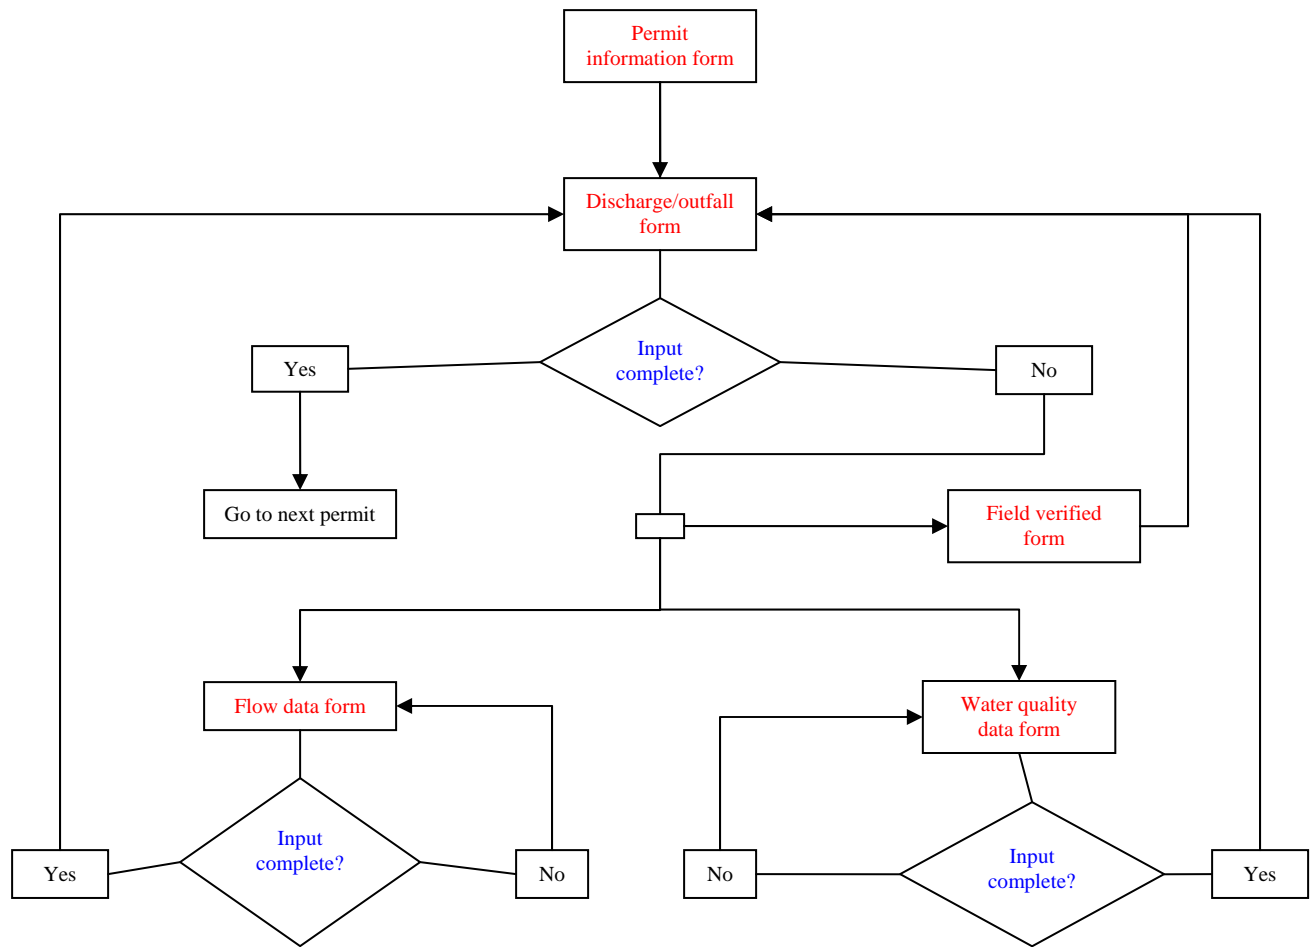

Figure 1. Process flow chart for data entry into Act 220 discharge monitoring report database
A process flow chart showing the structure of and the relationships between the database forms is shown in Figure 1. Notice that the database has the capability of storing water quality data; however, these data are not required for the flow data collection task and thus will be for the use of the party entering the data only. Water quality data will not be transferred to DEP unless they request such transfer. The database will also store data acquired from Global Positioning Systems (GPS) regarding the location of discharges. This will serve three functions:
- After you have entered all flow data from the DMR paper form for the selected discharge for the selected month, you will need to enter the flow data for the same discharge for all other months (up to 60) (Figure 1). At the bottom of the form is a record number bar with arrows that will read “1 of ?”, with ? = the number of months of flow data (or number of flow data records you have already entered). To leave the current month you have input flow data for and continue to the next month, click on the plain right arrow tab (do not click on the right arrow with the line to the right of it or the right arrow with the asterisk to the right of it). This will open a new, empty flow data form which you will use to input flow data for the same discharge but for a different month. You can also Tab through the fields and once you Tab out of the comment field, an empty flow form will open to allow you to enter the next record. You will fill out this form in the same manner as the previous flow form, making sure you change the date and the flow values as they are recorded on the paper DMR files. You will continue this process for each monthly DMR paper report until you have entered all months of flow data for that outfall.
- After you have finished entering all flow data for the discharge/outfall for all months, you may either enter flow data for another discharge/outfall for the same permit, switch to another permit to begin entering data on the “Permit Information” form, or you may close the flow entry form to return to the ‘Discharge/Outfalls’ form and enter data under the “Field Corrected Data” or “Water Quality” tabs (Figure 1). Following is the procedure for data entry into fields on those two forms:
- To enter water quality data, click on the “Water Quality Data” form. This will open the water quality data entry form. For each numbered discharge/outfall on the “Discharge/Outfall” forms, you will enter up to 60 water quality form records (Figure1). You will enter data by month for the years 2000-2004 (12 months/year * 5 years = 60 months) from the paper DMR forms in the DEP offices. In some cases, months may be missing (especially the most recent) or there may be no DMRs in the paper files; only enter for the months you actually have paper forms for.
- After you have entered all water quality data from the DMR paper form for the selected discharge for the selected month, you will need to enter the water quality data for the same discharge for all other months (up to 60) (Figure 1). At the bottom of the form is a record number bar with arrows that will read “1 of?”, with ? = the number of months of water quality data (or number of water quality data records you have input). To leave the current month you have input water quality data for and continue to the next month, click on the plain right arrow tab (do not click on the right arrow with the line to the right of it or the right arrow with the asterisk to the right of it). This will open a new, empty water quality data form which you will use to input water quality data for the same discharge but for a different month. You can also Tab through the fields and once you Tab out of the comment field, an empty flow form will open to allow you to enter the next record. You will fill out this form in the same manner as the previous water quality form, making sure you change the date and the values as they are recorded on the paper DMR files. You will continue this process for each monthly DMR paper report until you have entered all months of water quality data for that outfall.
- After you have finished entering all water quality data for the discharge/outfall for all months, you may either enter water quality data for another discharge/outfall for the same permit, switch to another permit to begin entering data on the “Permit Information” form, or you may close the water quality entry form to return to the ‘Discharge/Outfalls’ form and enter data under the “Field Corrected Data” or “Flow” tabs (Figure 1).
- After you have entered all flow and water quality data for all months for each discharge/outfall, have entered field corrected data for each discharge/outfall (if available), and have completed this process for all outfalls for each permit, you are done entering data for the selected permit. Continue to the next permit for which you are entering data by clicking on the “Permit Information” tab at the upper left corner of the “Discharge/Outfall” form, then using the search drop-down box to find the next permit (Figure 1).